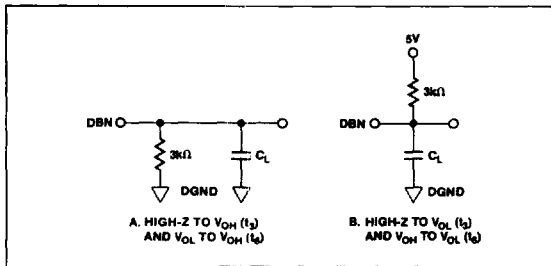

FIGURE 1: Load Circuits for Access Time
- t_3 , t_4 and t_6 are measured with the load circuits of Figure 1 and timed for an output to cross 0.8V or 2.4V.